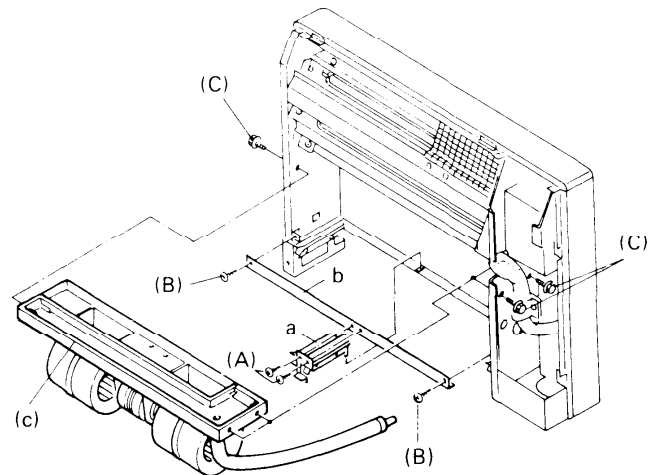

Fig. 9
- ① Remove the two screws (A), and then remove the mounting plate (a).
- ② Remove the screws (B) (one each left and right), and then remove the reinforcement plate (b).
- ③ Remove the bolts (C) (one on the left and two on the right), and then remove the partition plate assembly (c) by pulling it to the front. Fig. 9